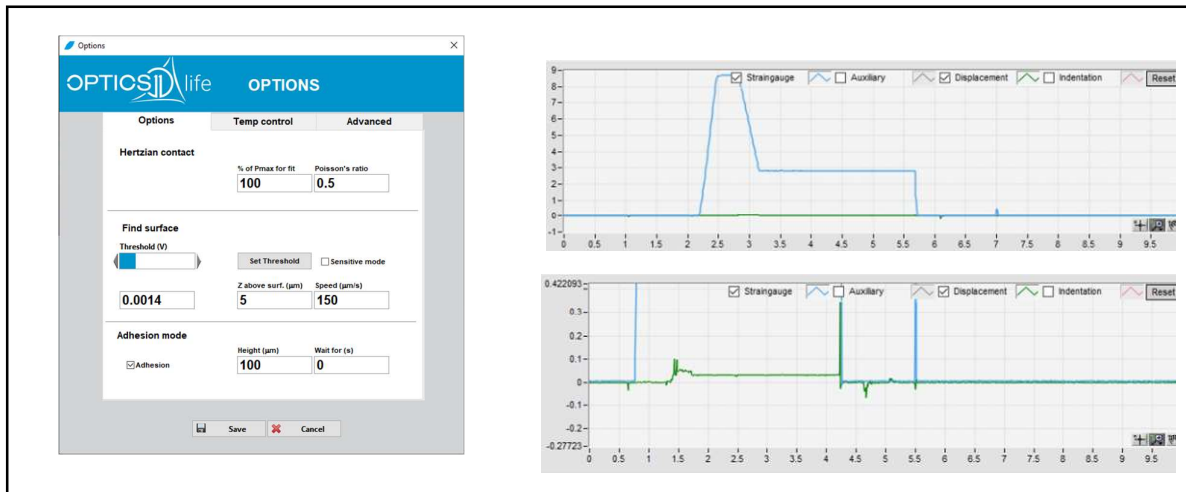

Figure 23: Find Surface options window. Piezo and cantilever signals during the "Find Surface" step
In the 'Options' menu (Figure 23 left) the settings of the automated find-surface procedure can be adjusted:
■ **Z above surf. (μm)** is the distance that the probe is retracted after the surface is found. If this distance is too small, the measurements will start in contact with the sample as shown in Figure 23 E, F, which could be due to 1) not ideal match between the probe and sample stiffness (probe is too stiff), 2) threshold is too high, 3) sample is adhesive. For load-indentation curves that start in contact, the contact point between the sample and the probe is unknown and is placed at the beginning of the load-indentation curve. For the correct contact point estimation, an approach distance to the sample is needed to fit the Hertz model (red line). This is shown in Figure 23 **Error! Reference source not found.** D from which the contact point is given as one of the fitting parameters.